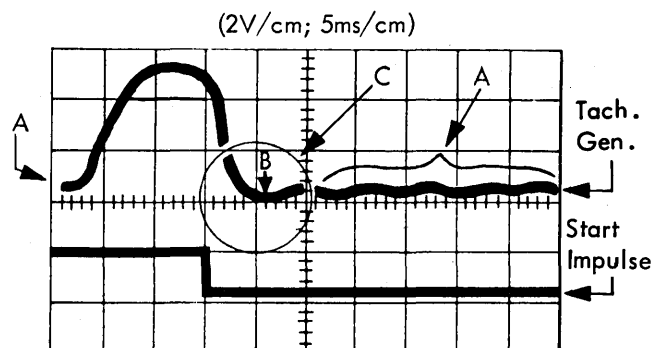

Figure 1-50. Bypass Needle Valve
3. Point-A (Figure 1-50) may be above ground level because of carriage drift speed.